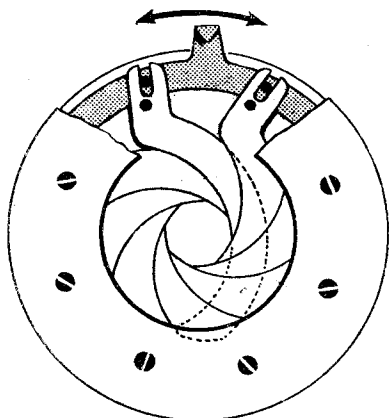
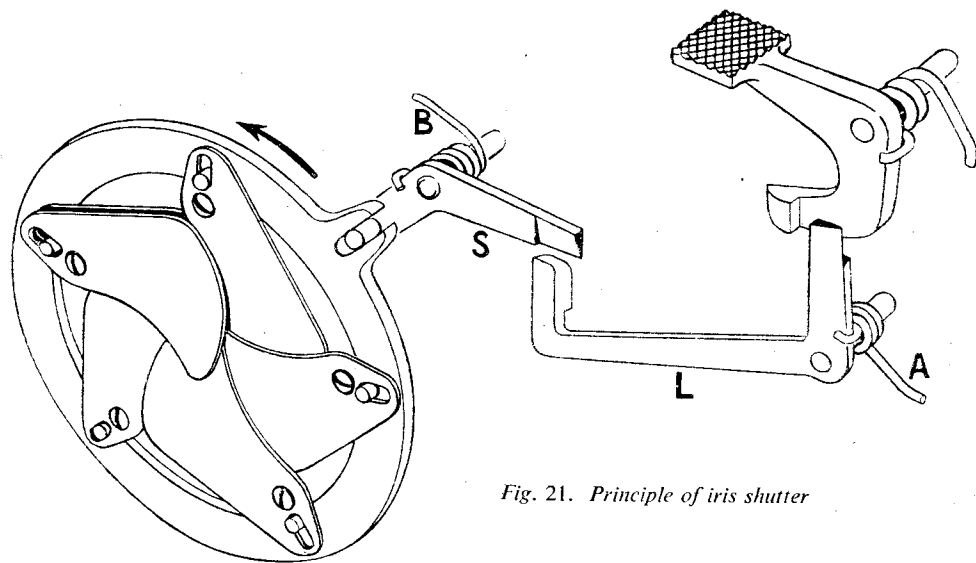

Fig. 13. Principle of operation of iris diaphragm. Constructional details vary considerably
Fig. 21. Principle of iris shutter
**I**NVARIABLY such a lens as the one shown in Fig. 12 is provided with an *iris diaphragm* (illustrated in Fig. 13) and quite often a between-lens shutter is incorporated as an integral part of the lens mount.
ness are used, and interleaved as shown in Fig. 13. In the shutter fewer leaves (five or six) are generally employed and in the interest of minimum friction the plates are not interleaved: often one of the leaves is duplicated and this is best explained in the drawing, Fig. 21.